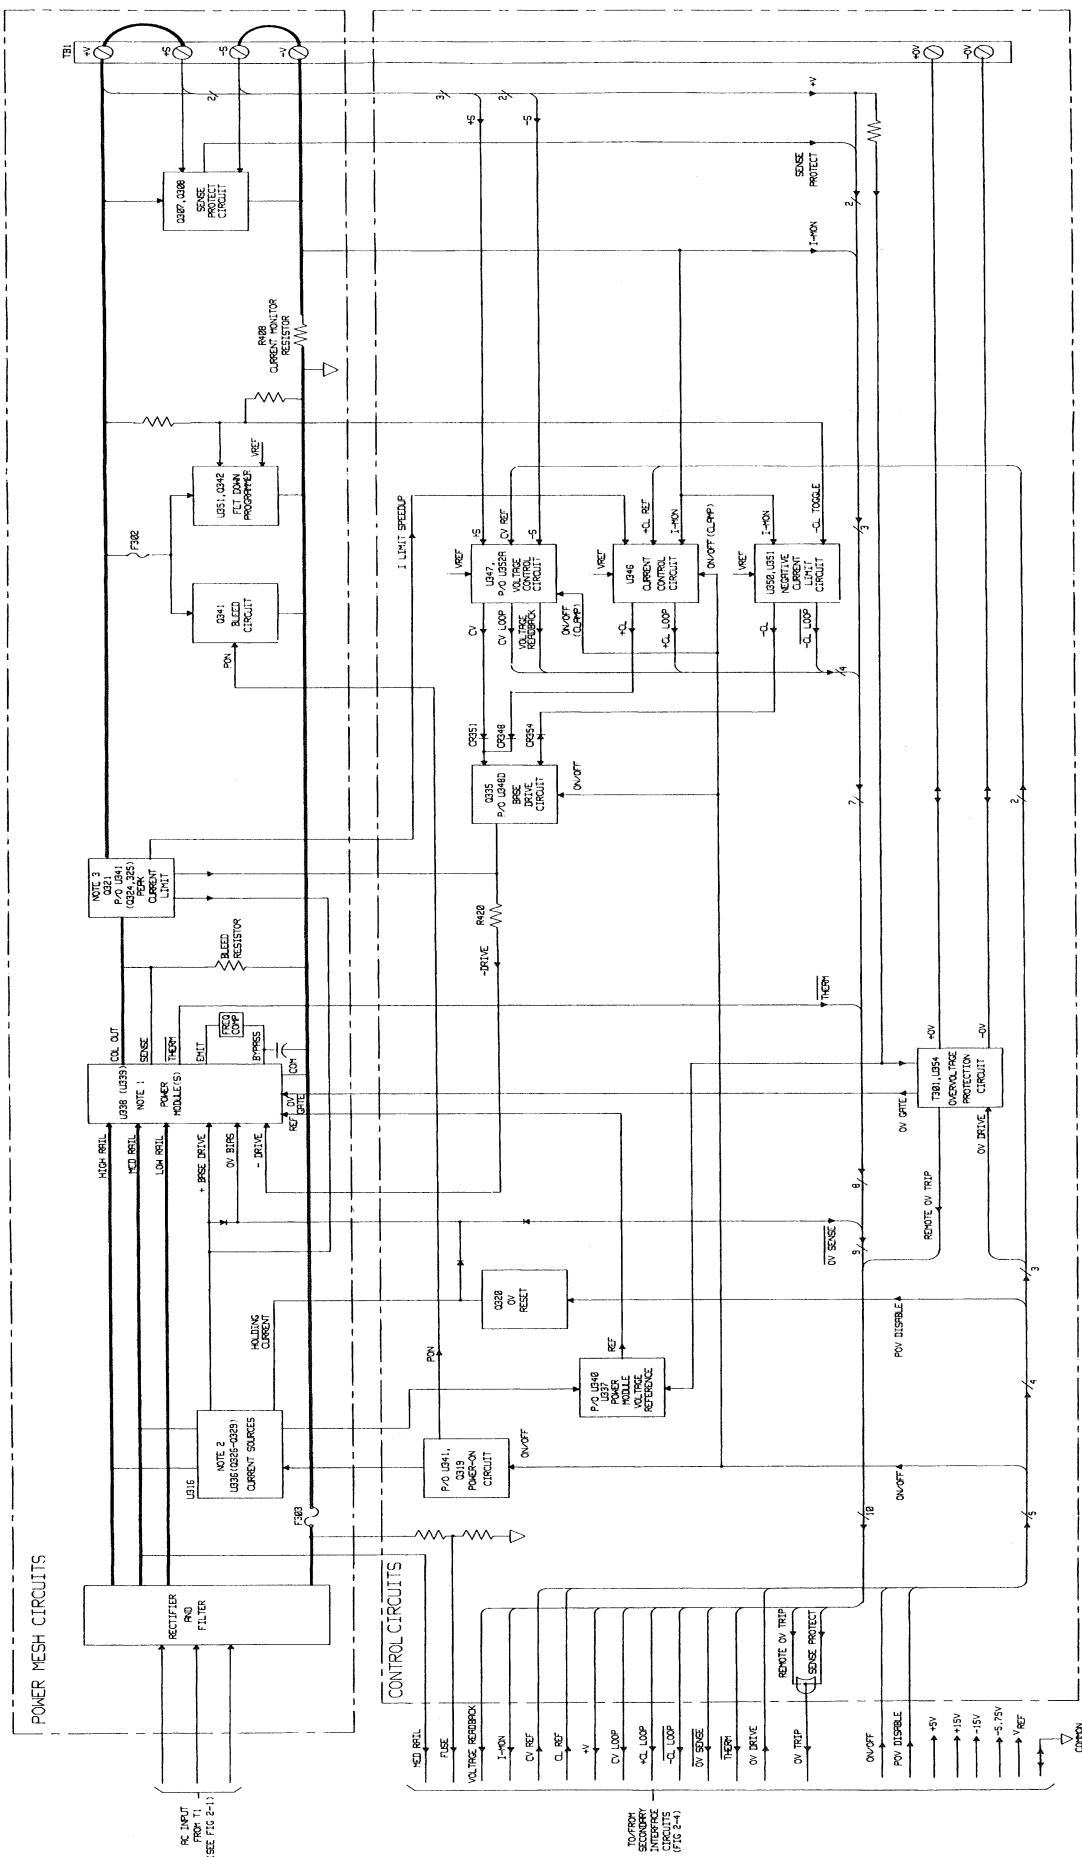

Figure 2-5. Output Board, Power Mesh and Control Circuits, Block Diagram
The voltage readback buffer (U319C) provides unity gain for the V READBACK signal and isolates the multiplexes circuit from the CV control circuit (see Figure 2-5). The current readback amplifier (U345) provides a gain of approximately 36 for the I-MON signal (0 to 0.25 V approximately) which comes from the current sense resistor (see Figure 2-5). The amplified signal is an input (+ IMON) to the analog multiplexes and to the current readback inverter (P/O U319D). The inverter slightly attenuates the signal and provides the correct polarity to the analog multiplexes so that the current can be monitored (- IMON) when the output is sinking current (- current).
Status Monitor - This circuit consists of comparators to monitor the control loops, logic to decode these input lines, and flip-flops to catch and hold changes. The inputs to the status comparators are the CV LOOP, +CL LOOP, and -CL LOOP signals from the power control circuits (see Figure 2-5). The outputs of the comparators are combined in logic circuits which then go into the set inputs of flip-flops which hold the status of CVO, + CLO, - CLO, and UNREG outputs. UNREG is decoded if the output is not regulated by a CV or CL control loop.
The status monitor circuit also receives OV SENSE and THERM inputs. The THERM signal is received from the power module(s) in the power mesh (see Figure 2-5) and indicates when an overtemperature condition exists. Note that when the microcomputer senses the overtemperature (OT) condition via data bus line D4, it shuts down the output. This circuit resets automatically and restores the output approximately 30 seconds after the temperature drops sufficiently for safe operation.
2-34 Power Mesh and Control Circuits (Figure 2-5)
The power mesh circuit in the upper half of Figure 2-5 converts the AC from the power transformer to regulated DC output power. The primary power control element is the power module hybrid. Note that the main difference between the 40W and 80W output boards is, the 40W output boards have one power module (U338), while the 80W output boards have two power modules (U338, U339) connected in parallel. The power mesh circuit generates a constant voltage or constant current output under control of the control circuits shown in the lower half of Figure 2-5. In addition to controlling the power mesh circuit, the control circuits send measurement and status data back to the GPIB controller and/or front panel via the interface circuits on the output board and the GPIB board.
The current control circuit receives an input from the peak current limit circuit (in the current sourcing mode only) as shown in Figure 2-5. When the peak current limit circuit (see paragraph 2-39) is activated, it immediately limits the conduction of the series regulators in the power module and also notifies the current control circuit to take control of the current limiting action.